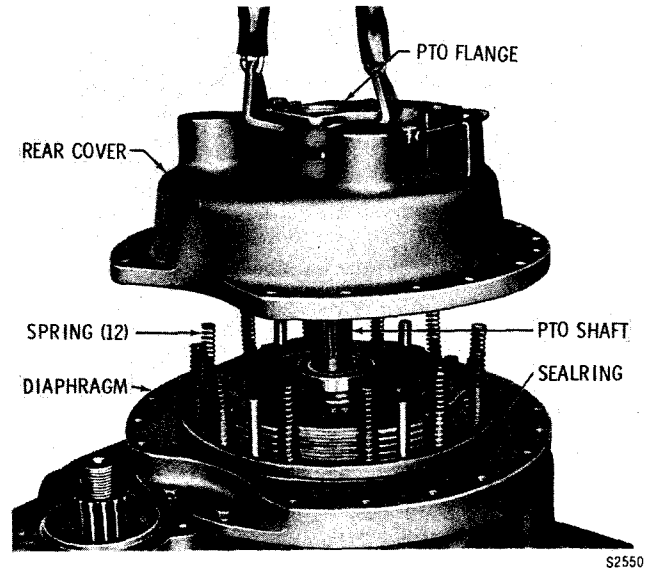

Fig. 7-30. Installing rear cover assembly (TTB)
(1) Attach a sling to the bolt circle flange of the rear cover assembly (as assembled in para 6-21). Hoist the assembly into position over the transmission in a manner similar to that shown in figure 7-30.
(2) Check to ensure that all of the brake return springs are straight and aligned, and that the sealing is in place on the diaphragm (fig. 7-30).
(3) Lower the assembly to within approximately 1-1/4 inches (32 mm) of the diaphragm and check "by feel" to ensure that each brake return spring will enter its recess in the brake-apply plate.
(4) Continue lowering the assembly until it stops its downward travel and its weight is supported by the brake return springs. Remove the sling. Using two 3/8-16 x 3-inch bolts, draw the rear cover assembly down sufficiently to allow the engagement of the proper bolts. Install sixteen 3/8-16 x
(1) Attach a sling to the PTO flange of the rear cover assembly (as assembled in para 6-21). Hoist the assembly into position over the transmission, as shown in figure 7-30.
(3) As the rear cover assembly is lowered, rotate the PTO flange, so that the shaft splines will engage the high-range clutch hub and the forward-and-reverse sun gear.
(4) Lower the assembly to within approximately 1-1/4 inches (32 mm) of the diaphragm and check "by feel" to ensure that each brake return spring will enter its recess in the brake-apply plate. Attach the rear